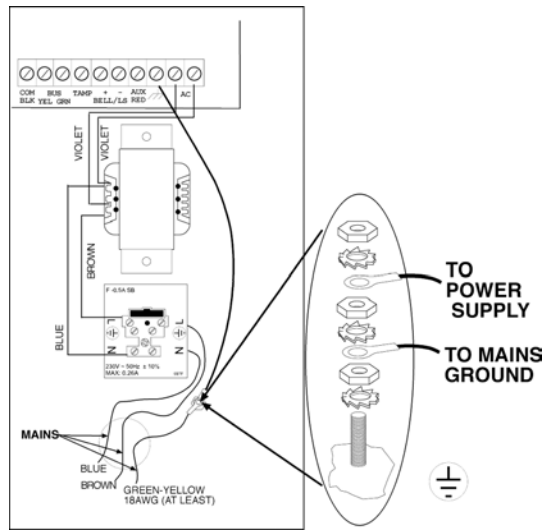

Figure 3: SMPS – AC & Ground Connection
4. Connect the incoming mains cable to the main fuse terminal block as shown in Figure 3: